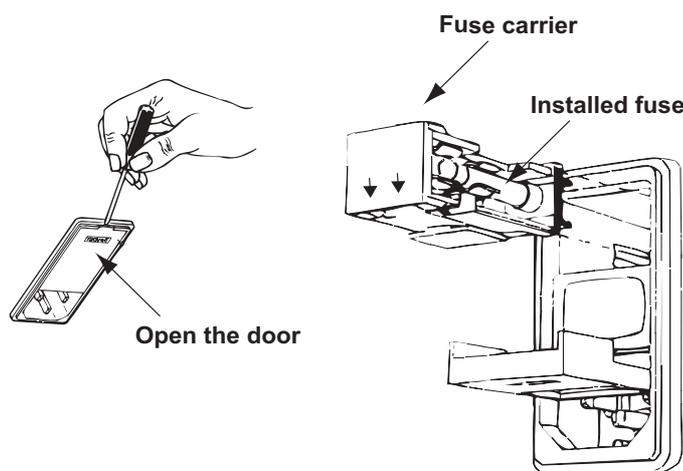

Figure 2-2 Checking the Main Fuse
1. Use a small flat-blade screwdriver to open the fuse compartment door in the AC power input housing (Figure 2-2). Carefully pull out the fuse carrier.
2. Check that the fuse has the correct rating. The fuse carrier must be inserted into the compartment with the orientation shown in Figure 2-2. *Do not force the carrier into the compartment or both could be damaged.*